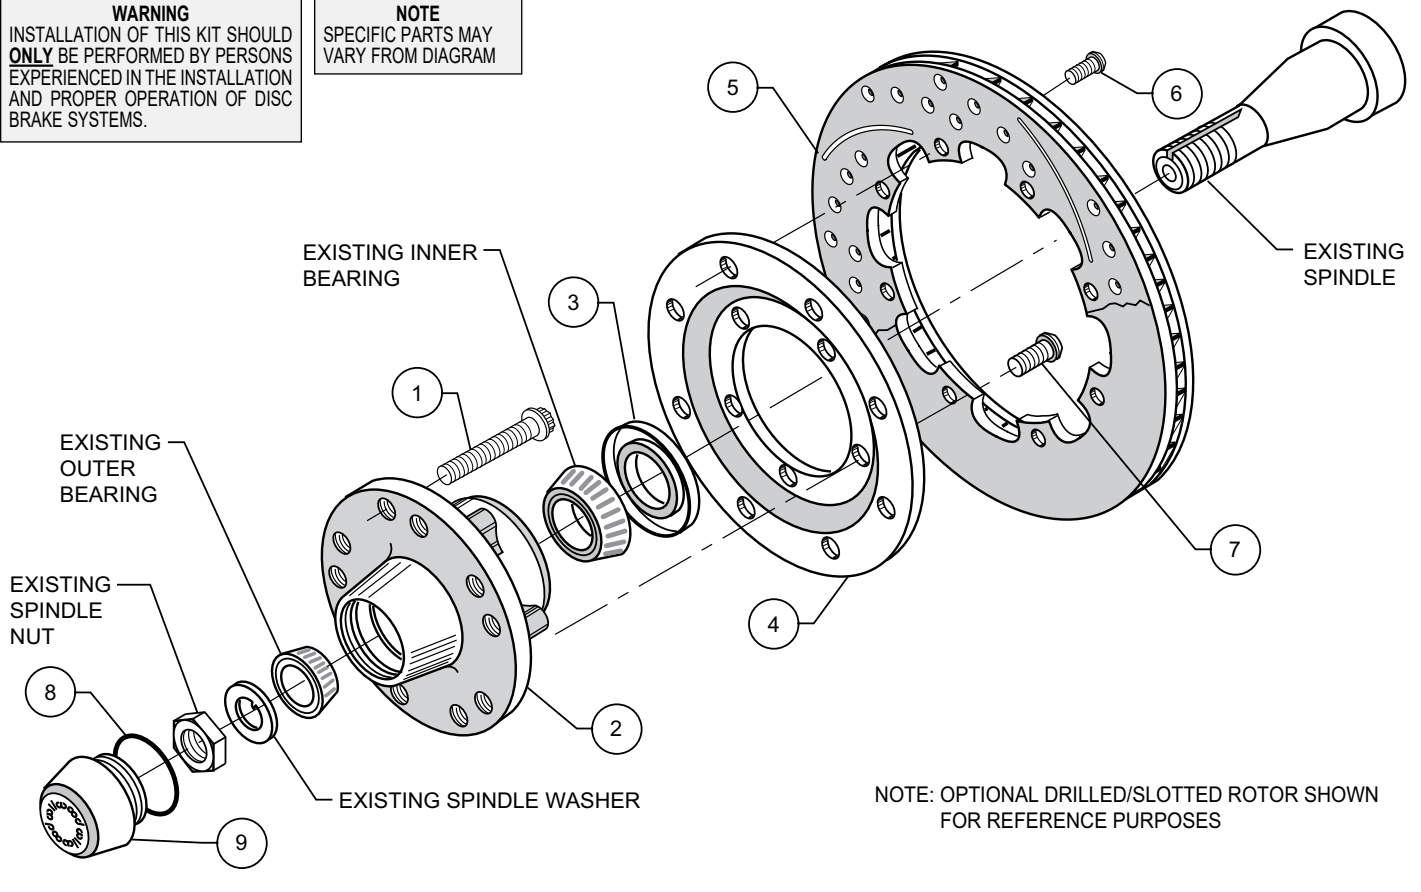

Figure 1. Typical Installation Configuration
**NOTE:** Numbers in parenthesis refer to the parts list and Figure 1 on the preceding pages.
- Install wheel studs (1) into the hub (2). Torque to 77 ft-lb. **NOTE:** There are two five lug patterns in the hub (5 x 4.50 and 5 x 4.75). Make sure of the correct hole pattern for the correct wheel application before installing studs into hub.
- Pack the large inner bearing cone (use existing) with high temperature disc brake bearing grease (available from your local auto parts store) and install into the backside of the hub (2).
- Install the grease seal (3) by pressing into the backside of the hub (2).
- Orient the rotor (5) and the rotor adapter (4) as shown in Figure 1. Attach the rotor to the adapter using bolts (6). Apply red *Loctite*® 271 to the bolt threads and torque to 25 ft-lb using a criss-cross pattern.
- Mount the adapter/rotor assembly (4/5) to the hub (2) using bolts (7), as shown in Figure 1. Apply red *Loctite*® 271 to the bolt threads and torque to 45 ft-lb using a criss-cross pattern.
- Pack the small outer bearing cone (use existing) with high temperature disc brake bearing grease and install into front of hub (2). Slide the hub/rotor assembly (2 and 5) with outer bearing cone onto the spindle. Secure using spindle washer (reuse existing), stock adjusting nut and nut locking device. Adjust bearings per Original Equipment Manufacturer (OEM) specifications.
- Install the dust cap (9) onto the hub (2) with a new o-ring (8). Friction created by the o-ring (8) on the dust cap (9) keeps it from unscrewing. The O.D. of the spindle washer may be larger than the I.D. of the dust cap not allowing it to seat against the hub face. Some grinding on the washer O.D. may be necessary to clear the I.D. of the dust cap.